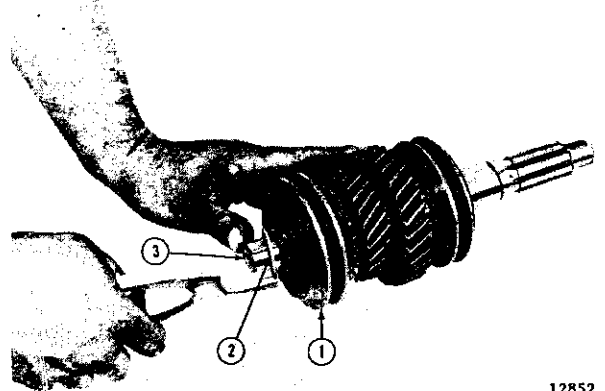

FIG. J-22—REMOVING-INSTALLING SECOND-THIRD CLUTCH HUB SNAP RING
m. Remove the clutch hub snap ring and the second-third synchronizer assembly from the mainshaft. Refer to Fig. J-22.
f. Install the mainshaft second gear and bronze blocking ring. Install the second-third synchronizer assembly, then install select fit snap ring. See Fig. J-22.